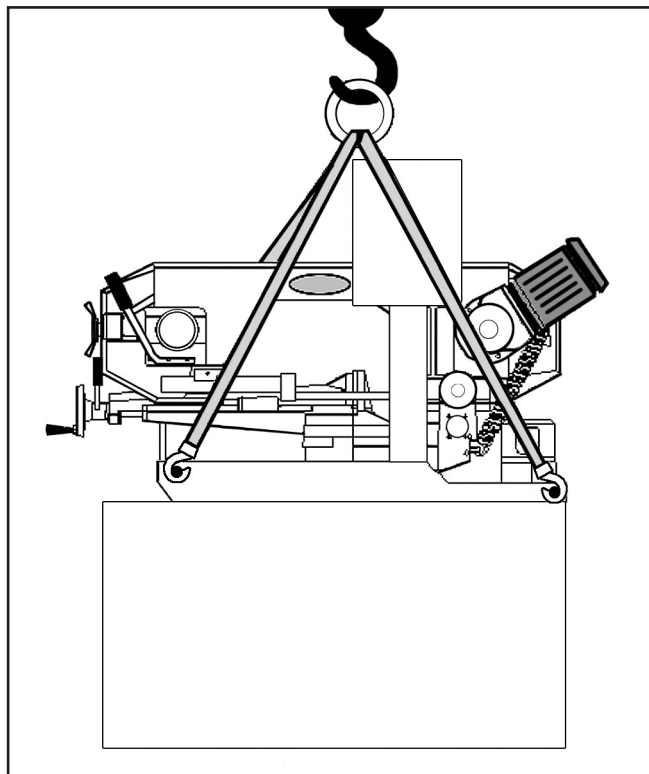

Figure 8. G0664 lifting points.
2. Insert round steel bars through the lifting holes and attach lifting hooks and straps to the bars as shown in **Figure 8**.